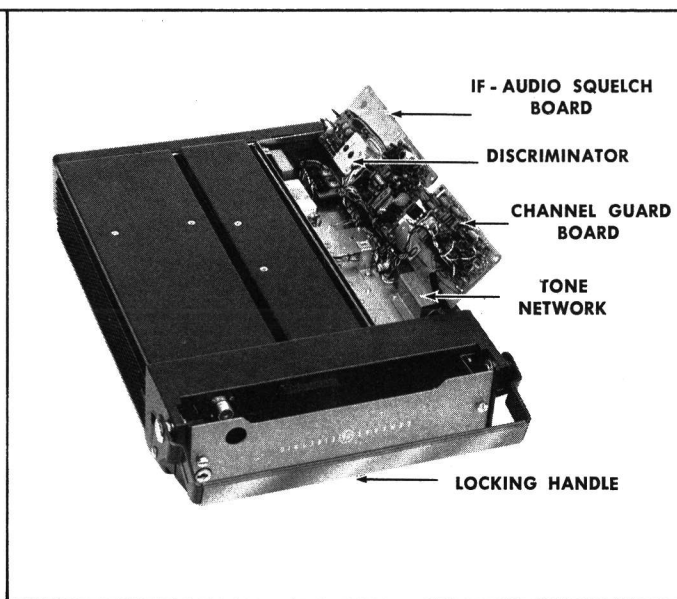

Figure 4 - Removing Bottom Cover
1. Pull locking handle down. Pull radio out of mounting frame. (See Figure 4).